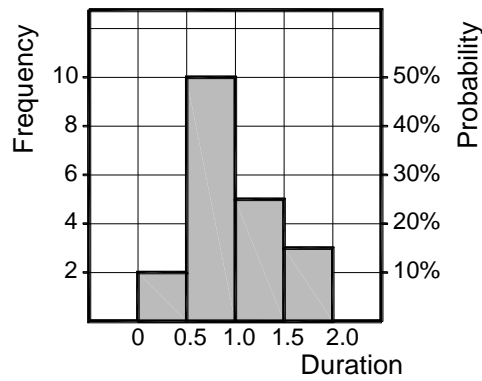
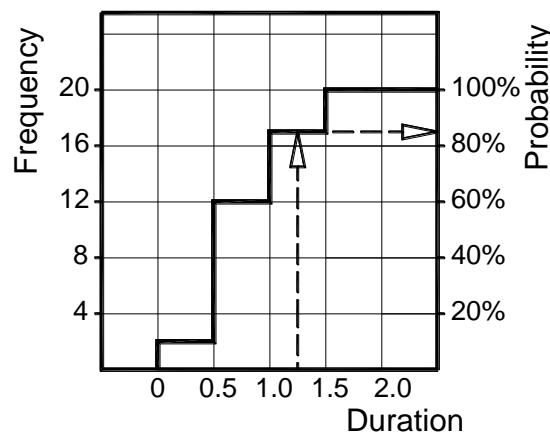

Figure 1. Frequency histogram
Figure 2. Cumulative probability plot
You can actually represent this as a chart with **duration** on the horizontal axis and **frequency** on the vertical axis. The chart can also display the probability for certain durations (Figure 1).
For example, what is the probability that the duration will be 1.2 hours? To find out, locate the duration 1.2 hours on the horizontal axis and draw a line up to solid line. Now draw a straight line to the right to find the probability, which in this example equals 85%. Unfortunately, cumulative probability plots can be confusing. They do not help us understand the interval for the parameter in question (in this case, task duration). It is only useful if we draw lines and get a probability as shown on Figure 2.
In addition to these distributions that are defined by recognizable mathematical formulas, most software tools will allow you to create **custom** distributions. All that is required is data, which in this case is the frequency of occurrence of a certain value. For example, you can enter the distribution shown on Figure 1 and use it for further analysis. Moreover, if you have empirical data, you can find known statistical distributions that can fit to this data. There are numerous software tools that will help you to choose the **best fit** among different types of distributions for your data.
3. Save the results of the analysis (project duration, cost, and other parameters). Repeat the process hundreds of times, each time using a new set of values from the statistical distribution. Each separate run is called a **trial**. After you have calculated and saved the results of hundreds of trials, you will now have a distribution of project parameters, which you can represent on a chart similar to those shown in Figure 1 and Figure 2.
Another method of eliciting judgment for continuous distributions is the **method of relative heights**. Using the previous example, you can ask the experts how many times the duration will be between 5 and 6 days, between 6 and 7 days and so on. Then you can draw a frequency histogram, similar to the chart shown on Figure 1.